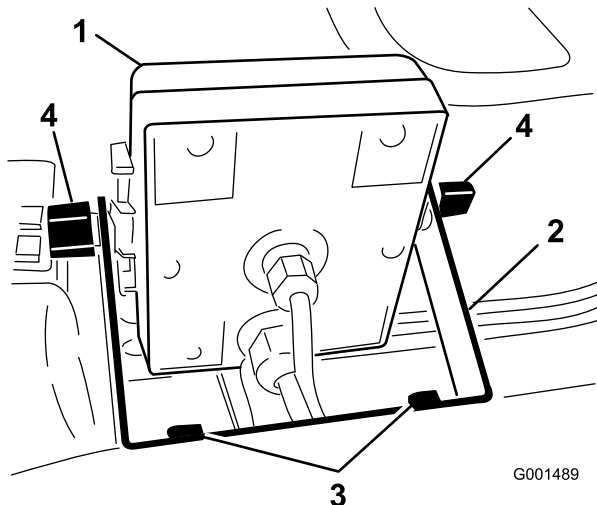
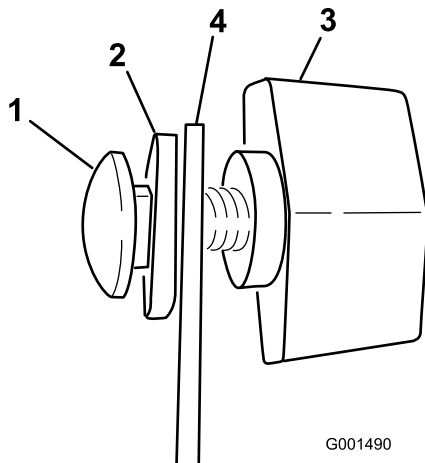

Figure 5
Figure 6
2. Install the monitor bracket on the dash (Figure 5) using 2 flange-head bolts (1/4 x 3/4 inch) and 2 flange nuts (1/4 inch).
3. Loosely install the 2 carriage bolts, rubber washers, and knobs on the bracket as illustrated in Figure 5 and Figure 6.
6. Install the Spray Pro monitor over the carriage bolt heads (Figure 5) and tighten the knobs to secure it.